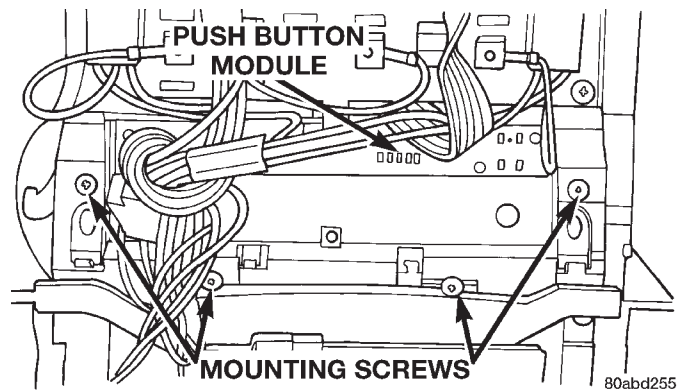

Fig. 5 Push Button Module Remove/Install
(1) Remove the overhead console as described in this group.
(2) Unplug the push button module wire harness connector from the trip computer, compass, and thermometer display module.
(3) Remove the four screws that secure the push button module to the overhead console housing (Fig. 5).